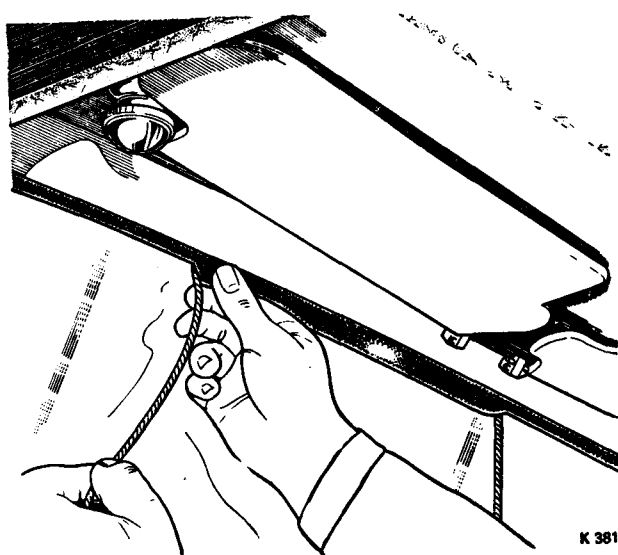

FIG. S41 VIEW OF THE WINDSCREEN WITH THE CORD IN POSITION FOR FITTING THE RUBBER SEAL
18. When the windscreen is in position, carefully pull the loop so that the lip of the rubber seal is drawn into position halfway up the windscreen. Then in a similar manner, pull each end of the string (see Fig. S41) along the top of the windscreen and down its sides until the cord is free and the rubber seal is fully in position. Finally, ensure that the windscreen is firmly in position by applying a few sharp blows with a rubber mallet around the embellisher.